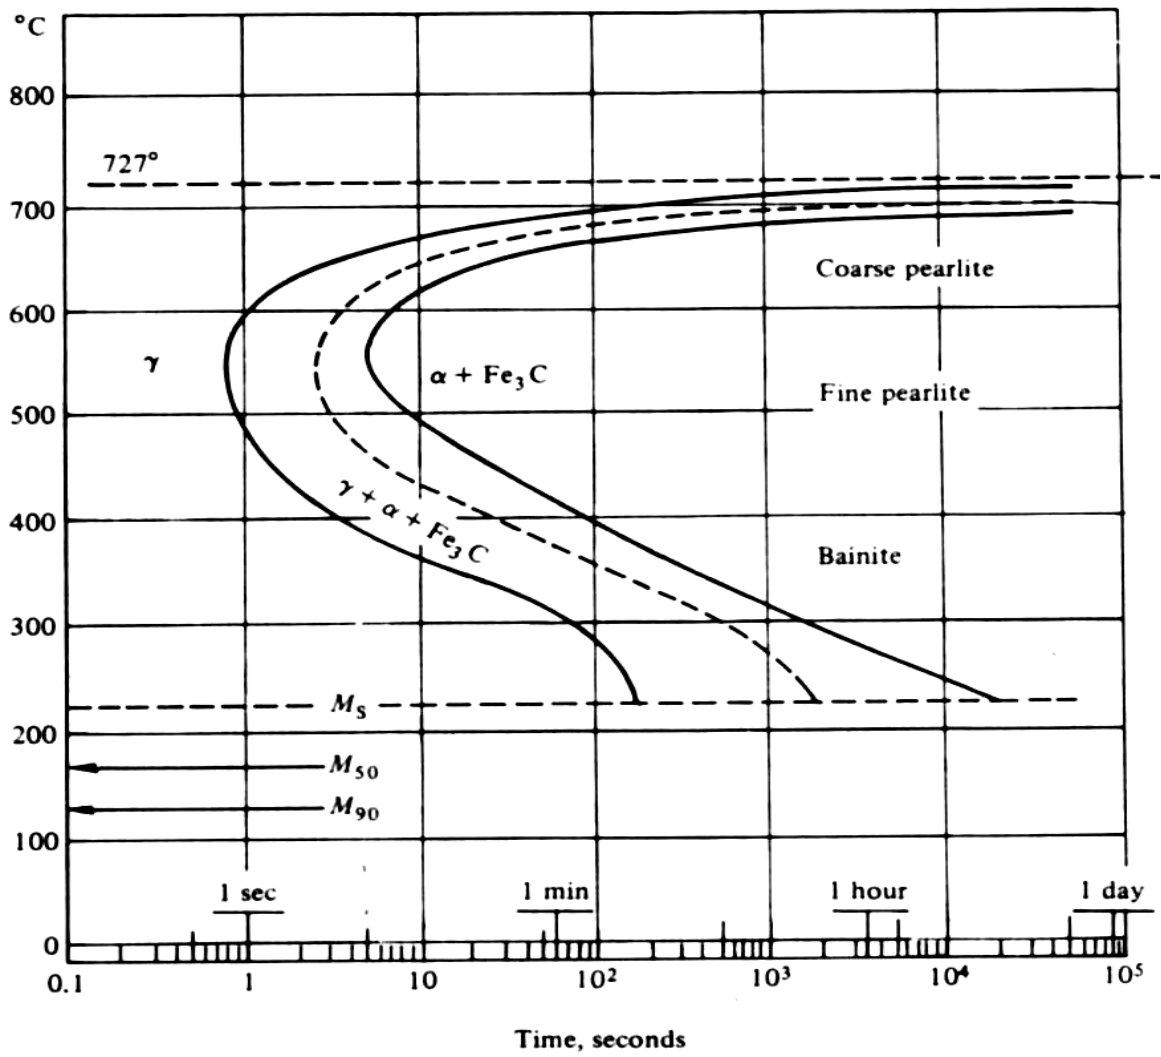

Figure 2: TTT diagram for eutectoid steel alloy
- (b) Based on the time temperature transformation (TTT) diagram of eutectoid steel alloy given in Figure 2 (Appendix A), sketch and label on the diagram the time – temperature paths to produce the following microstructures: